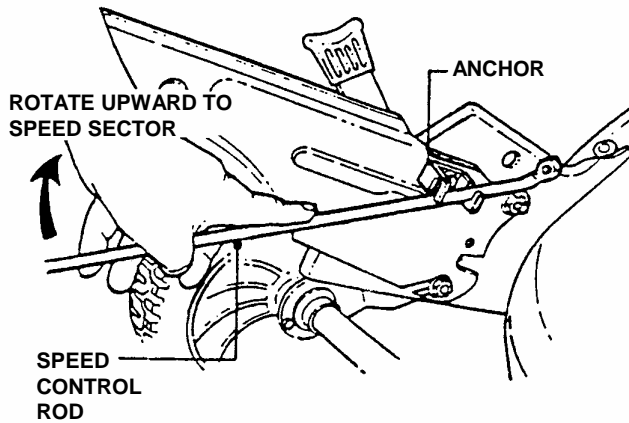

FIGURE 5
STEP 5: Install speed control rod by tilting the lever down in a horizontal position and insert into the anchor from the side as shown in Figure 5.